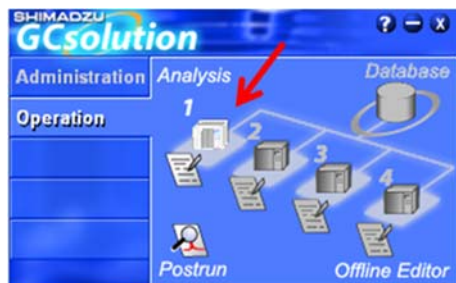

Figure 1
2. Log in to the computer and start the GCsolution software. Click the **Operation** tab and you will see the little window shown in Figure 1. Click the little GC with the number 1 next to it and log in as a Standard User (no password).